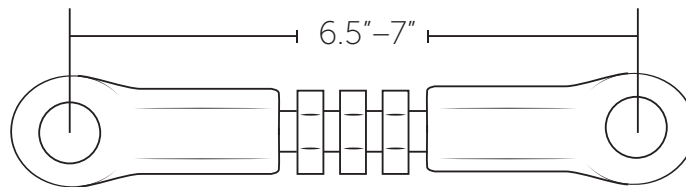

Figure 24
12. Set the Turnbuckle Linkage so that the ends are threaded on equally and about 6.5"-7" from center to center (fig. 24).